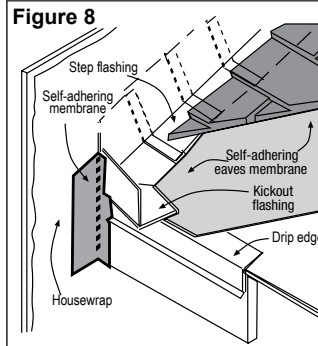

Figure 8
Figure 8, Kickout Flashing To prevent water from dumping behind the siding and the end of the roof intersection, install a "kickout" as required by IRC code R905.2.8.3 : "...flashing shall be a min. of 4" high and 4" wide." James Hardie recommends the kickout be angled between 100° - 110° to maximize water deflection
* The illustration (figure 8) was reprinted with permission of THE JOURNAL OF LIGHT CONSTRUCTION. For subscription information, visit www.jlconline.com.